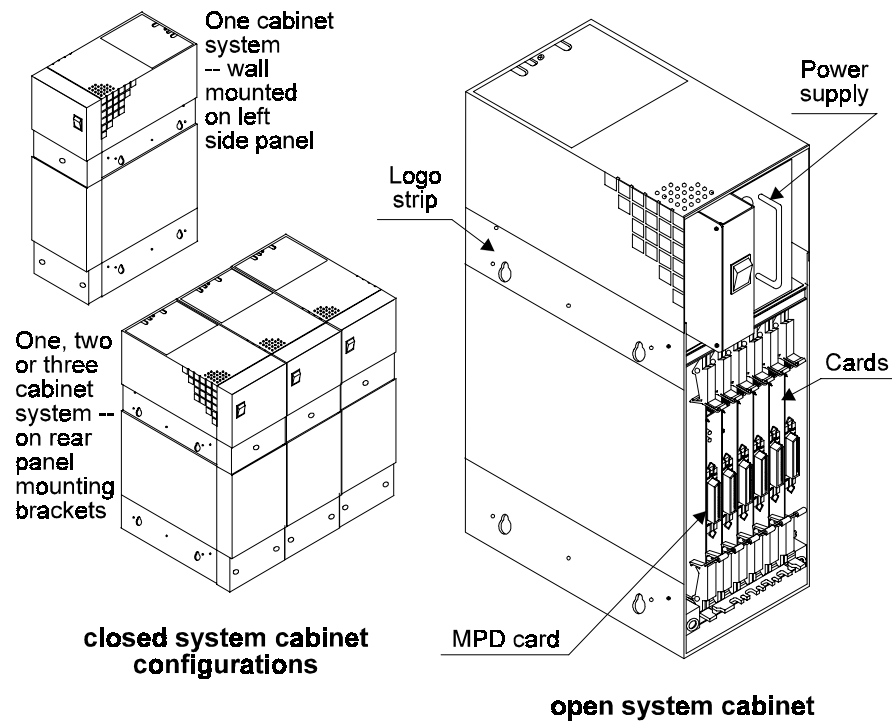

Figure 3-1 DIGITAL KEY BX system cabinet
- **Figure 3-1:** for the DIGITAL KEY BX system;